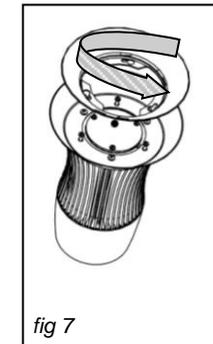

fig 7
5. Remove the collar by rotating see fig 7.